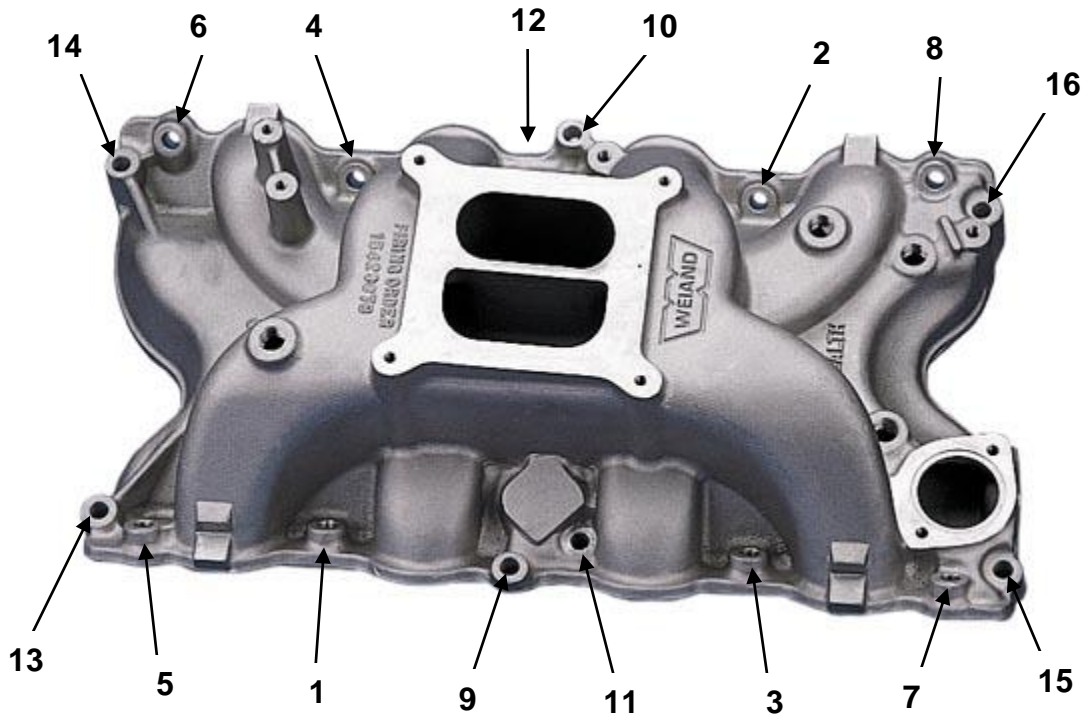

Figure 1
4. Carefully, lay your WEIAND intake manifold in place. If the manifold must be moved, recheck the gaskets. Install the intake bolts initially torquing to 10 ft./lbs., then 15 ft./lbs., following the factory GM sequence, and finally torque to 25 ft./lbs. as shown in Figure 1.